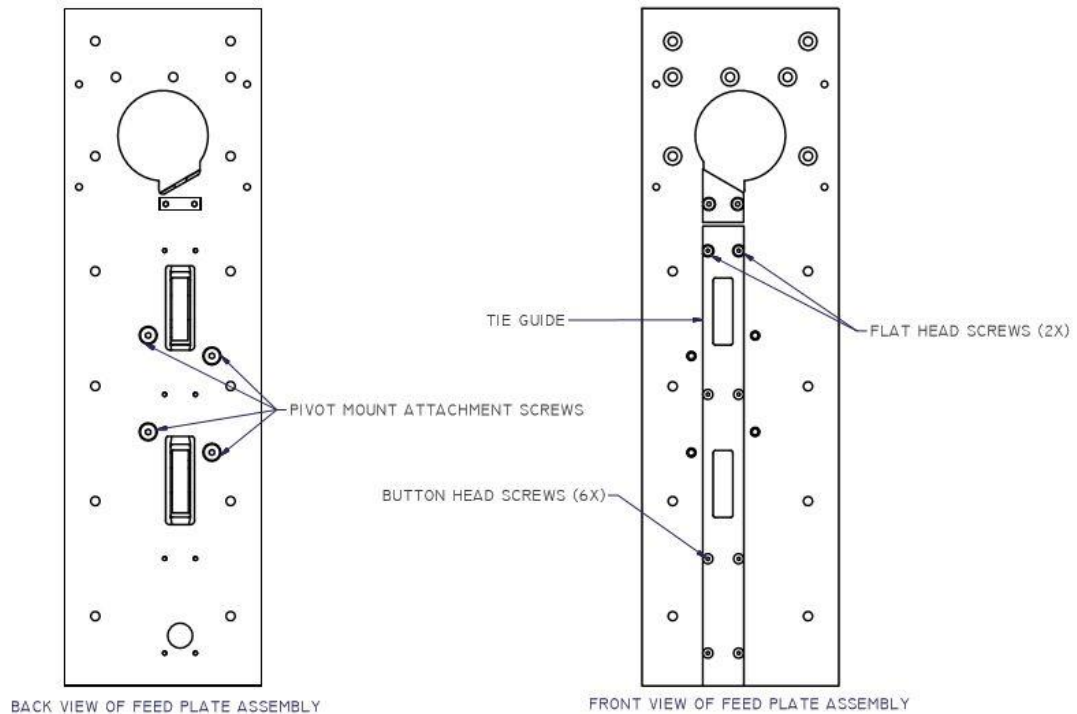

Figure 6.11.1.1 Back of Feed Plate Assembly
- 1.6.1. Remove two screws from the back side of the feed plate which attach each pivot mount to the feed plate. Reference Figure 6.11.1.1.